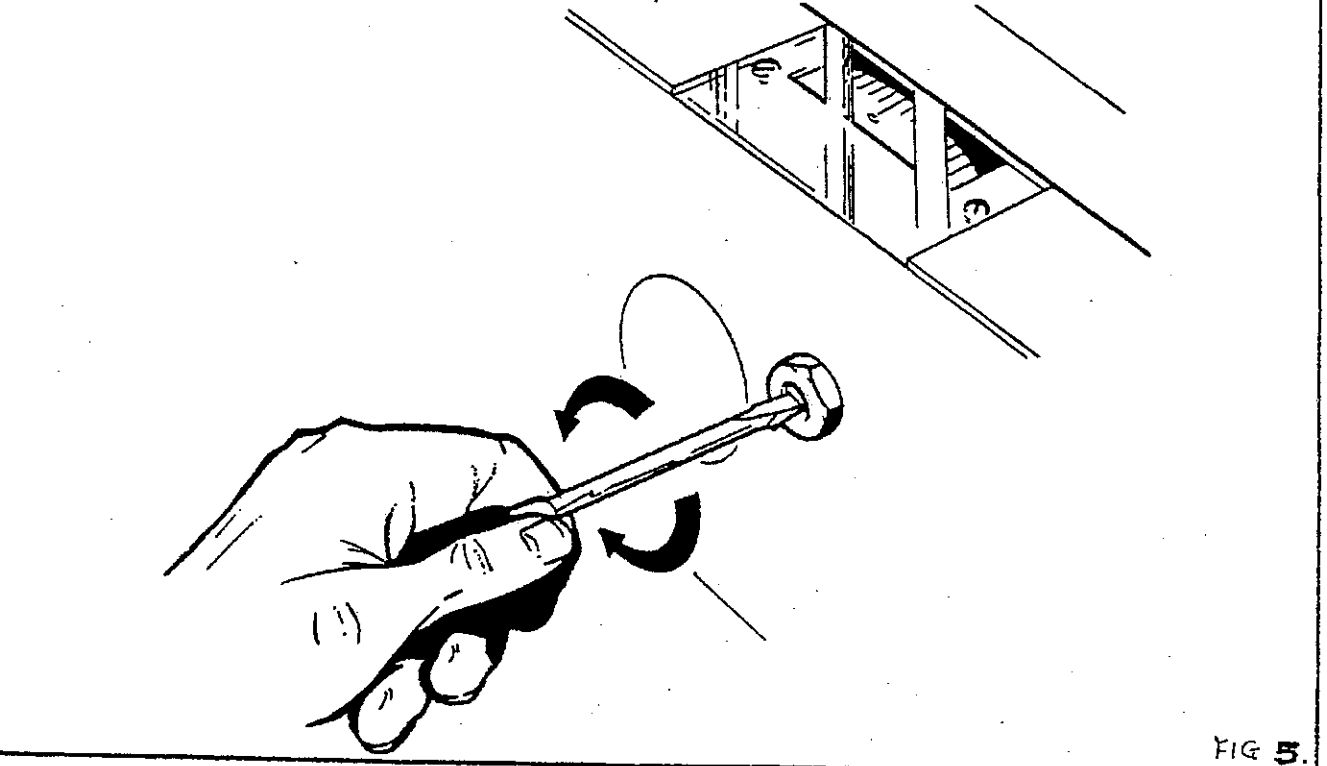

FIG 5.
DEPTH INDICATOR (FIG.5)
- 4 :- The reading against the datum line on the indicator (with table set in this position) should be ZERO. However, if adjustment is required simply rotate the setting screw in either direction to set the zero mark against datum line (FIG.5), re-lock lock nut after adjusting.